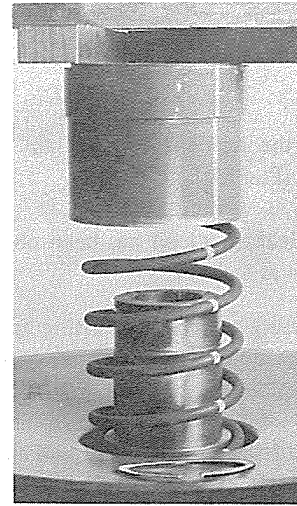

Figure 29
5. Place under press and set stand-off blocks as in disassembly. See Figure 29. Lower press, maintaining alignment of parts until collar is seated completely. Spread snap ring and place it in its groove in sleeve. Be sure that it is completely seated.